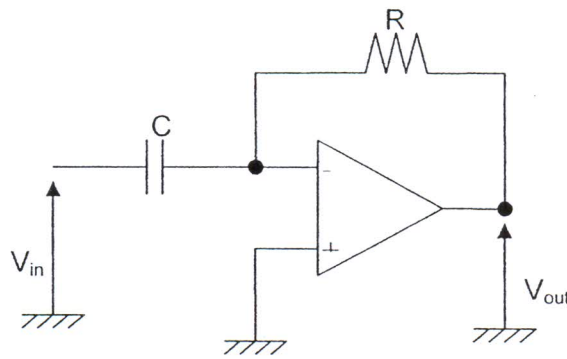

**Figure 3**
(d) Give two (2) reasons why the output of the circuit shown in **Figure 3** is saturated?